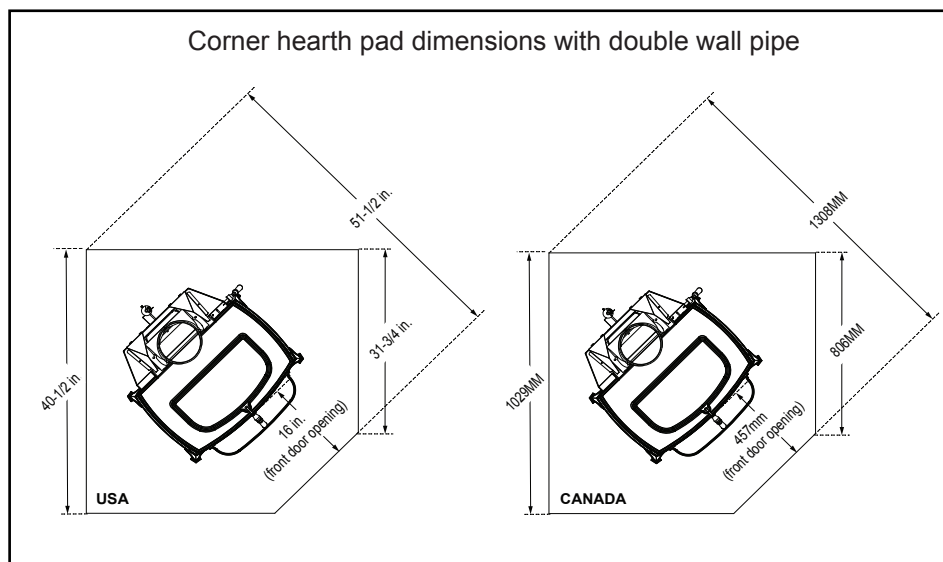

Figure 3.8
**In Canada,** similar floor protection must be provided 18" (457 mm) in front, 8" (203 mm) from the sides and 6" (152 mm) to the rear of the appliance. Figure 3.8